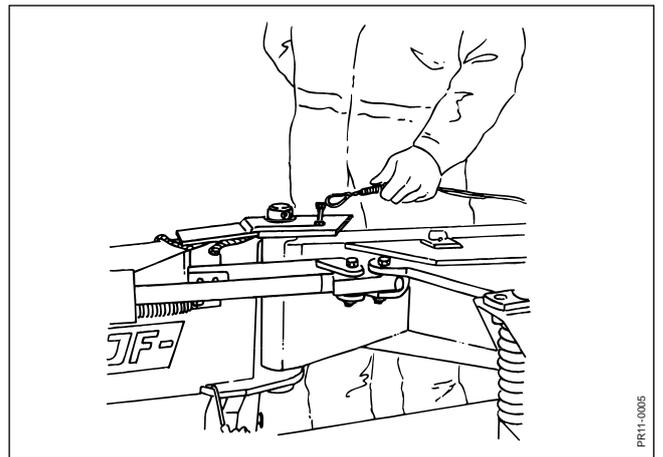

Fig. 2-16
- Fig. 2-16:** Raise the machine and place it in working position. Mount the spring hook for the stop.